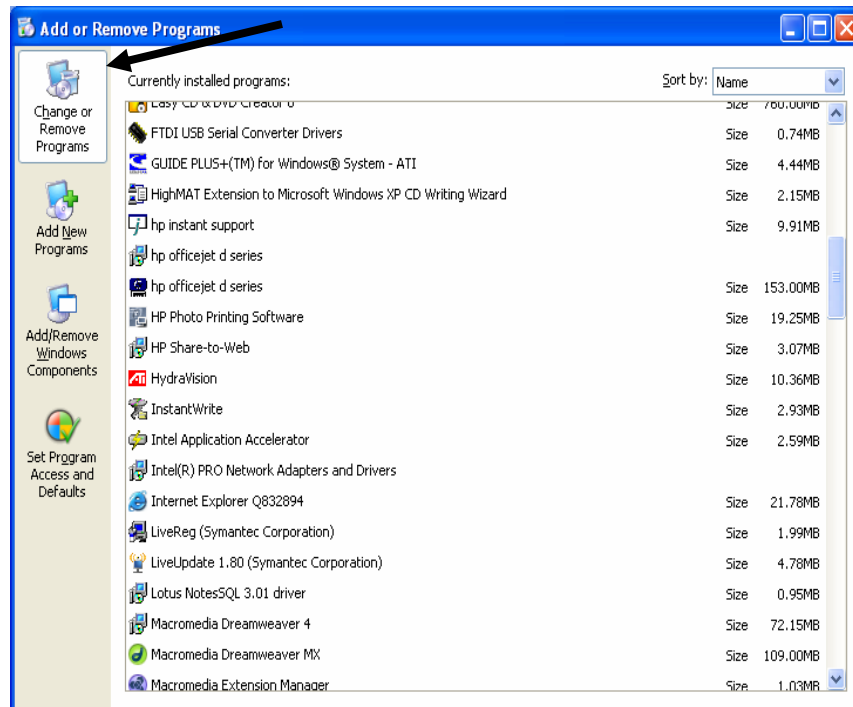

Figure 36
4. Click the “Change/Remove” button (Figure 36).